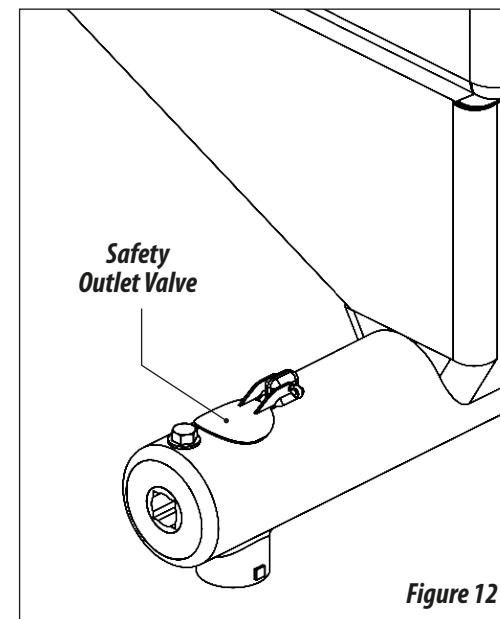

Figure 12
- 03 - If this occurs, proceed with the cleaning of the doser until the end of the hose near the furrow. Clogging can occur from roots, pieces of plastic and other objects. Figure 12.